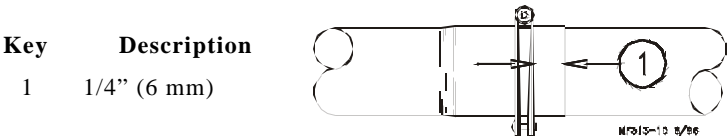

Figure 27. Tube Joint Connection (side view)
Make sure that each tube fits as far as possible into the belled end of the next tube. The outlet holes must point down. Install tube clamps as shown in Figure 27.
- make sure clamp is located, as shown in Figure 27.